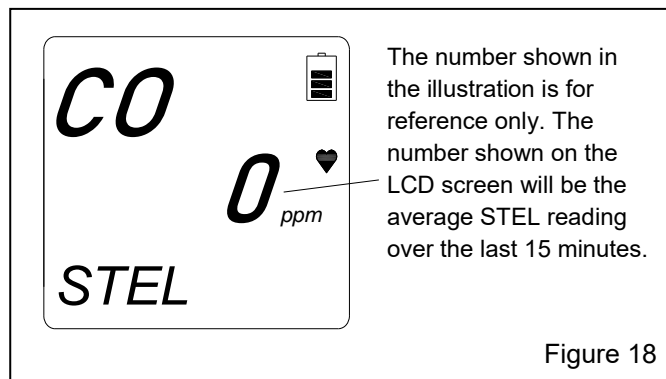

Figure 18
**4.3.6 Displaying the STEL Screen – Figure 18**